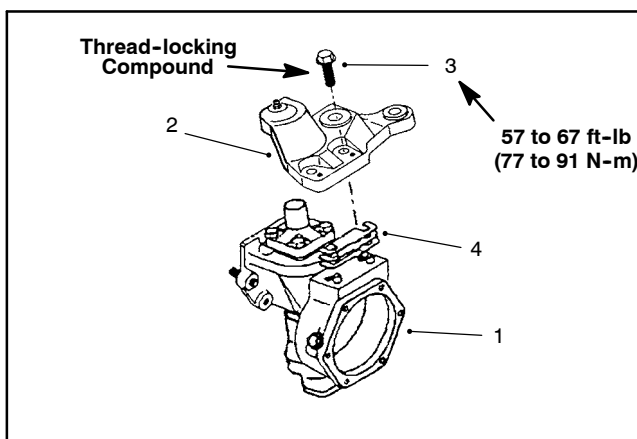

Figure 13
4. Remove the axle case support mounting screws, the axle case support, and the support shims (Fig. 13).